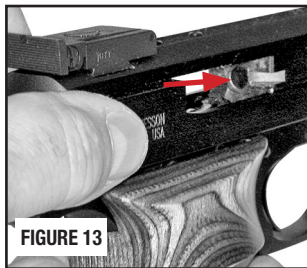

FIGURE 13
- Grasp the serrated sides of the slide from the rear and briskly pull the slide fully rearward to eject the misfired round (FIGURE 13). Do not obstruct the ejection port, and do not attempt to catch the round by placing your hand over the ejection port. Also remember that any time you release the slide while a magazine containing cartridges is in the pistol, you will have reloaded the chamber.